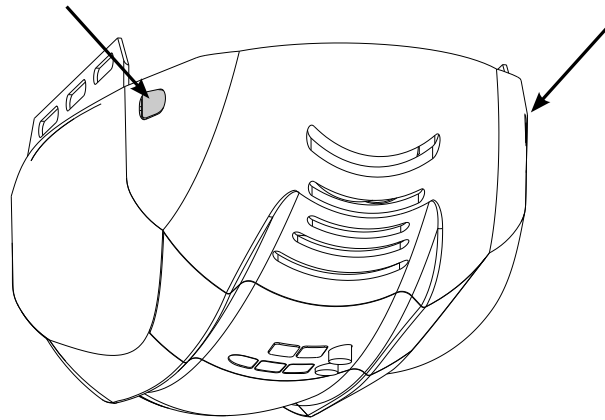

FIG. 1.
3. Open rear lens cover by pressing outer tabs on both sides of motor and swing down to remove lens and light bulbs. FIG. 1.